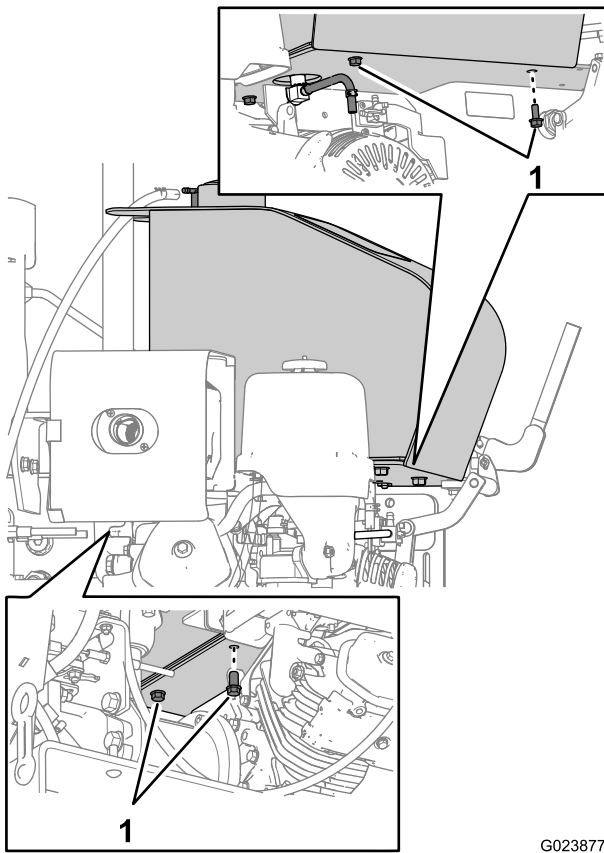

Figure 7
- Remove the 4 flange-head bolts that secure the fuel tank to the machine, and remove the tank from the machine (Figure 7).